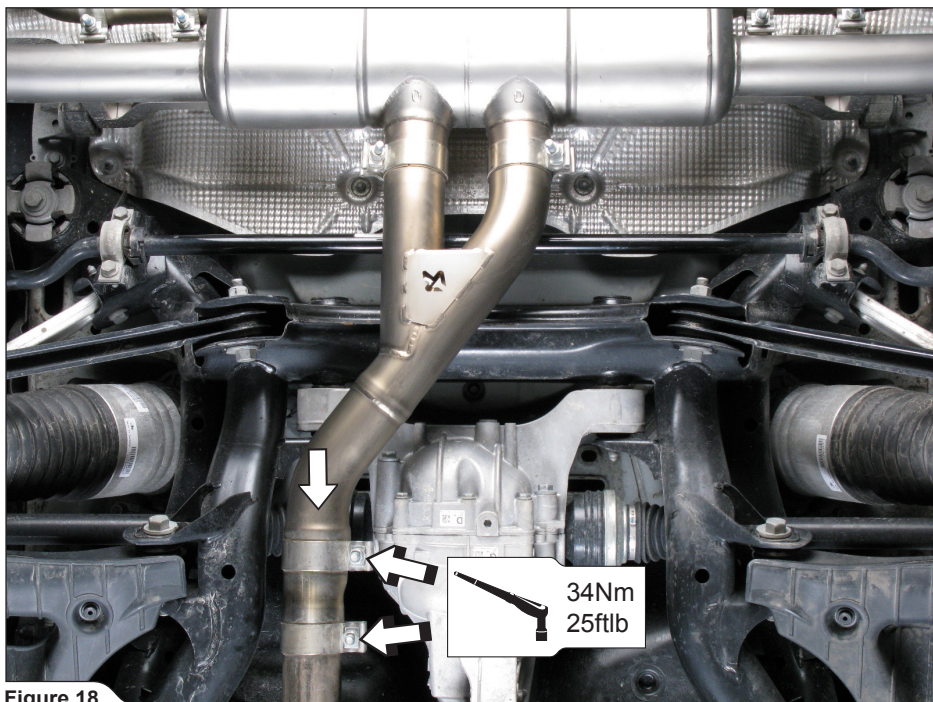

Figure 18
10. **For Diesel model only:** rotate the adapter till optimum position of muffler and link pipe (in respect to the chassis), then push the muffler link pipe all the way onto stock middle pipe and tighten the marked clamps to the specified torque (**Figure 18**).